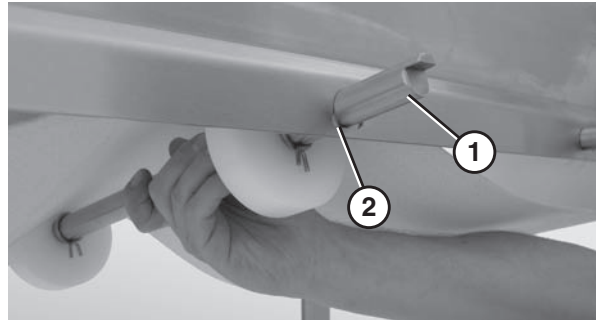

Figure 49
5. Remove the belt returns by pushing up on the return shaft (**Figure 49, item 1**) and sliding it through the large hole (**Figure 49, item 2**) in the frame.
6. Lower the opposite end of the return shaft (**Figure 49, item 1**) and slide it out of the frame.